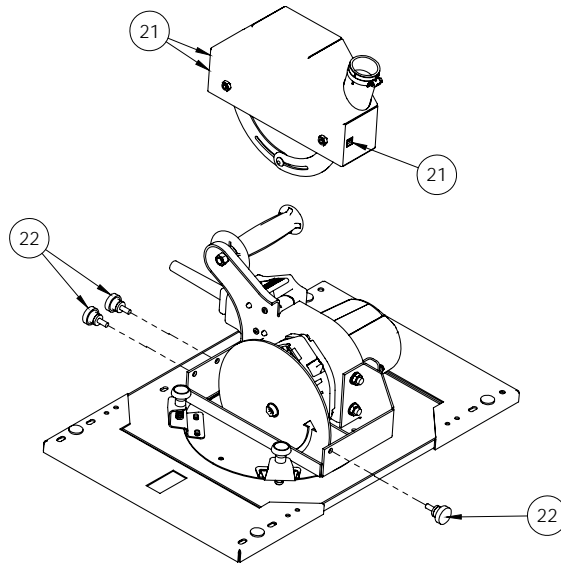

Figure 25: Removing/Installing the Blade Guard
The blade guard (Fig. 25, #21) is attached to the carriage with torque knobs (Fig. 25, #22). Remove the torque knobs to remove the guard. Be sure to leave the rubber washers on the torque knobs to prevent the knobs from slipping.
Always install the blade guard before operating the saw (Fig. 25 #21).
2. Remove the blade guard see **"Removing and Installing the Blade Guard"** and (Fig. 25, #21).
1. Remove the blade guard, when adjusting for sawing, (page 35; Fig. 25) so the blade is exposed.